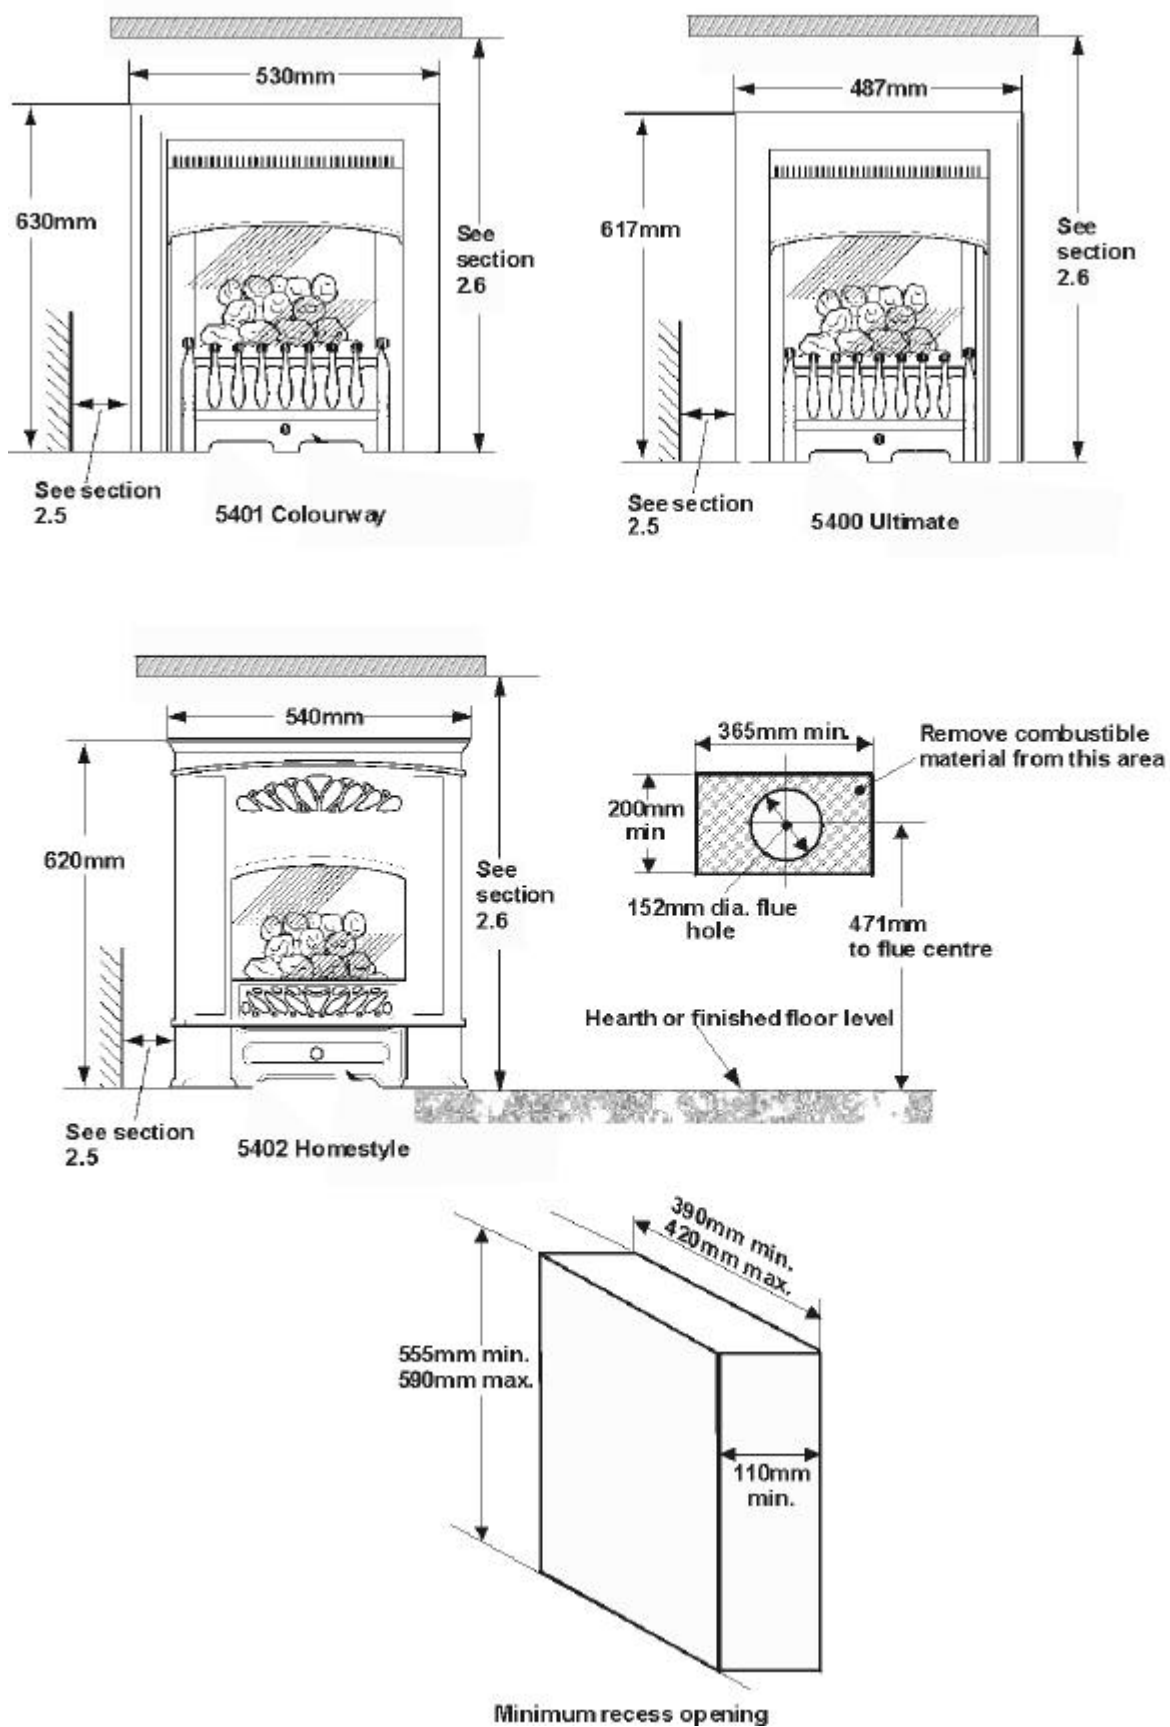

Figure 1
- c) Recessed into a builder's opening or cavity of a non-combustible wall. The minimum cavity size is shown in figure 1. A lintel may be required above the recess opening. If in doubt seek expert building advice. Lintel construction details are given in section 5 of this guide. ***This appliance must not be recessed into a combustible wall***
2.10 A hole 152mm (6in) dia. is required through the wall for the flue unit. The height of the hole centre is shown in figure 1 and on the wall-fixing template supplied with the appliance.